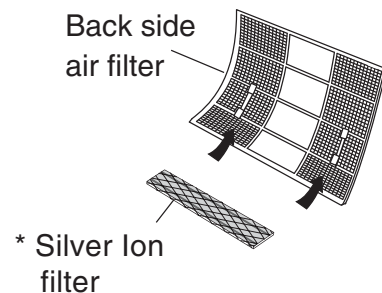

Fig.8b
2. Dirty silver ion filters can not be washed and reused. Purchase a replacement filter at your local dealer. (Fig. 8b)